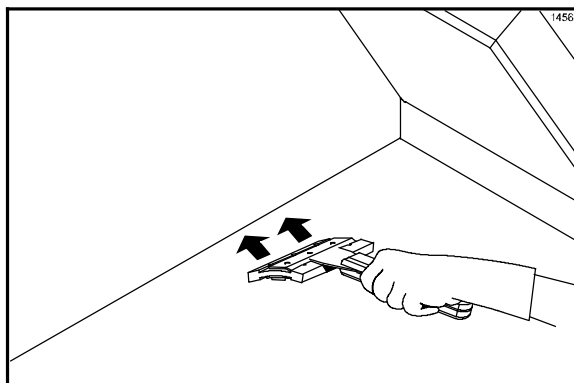

Figure 19
10. Use the grill squeegee to push residual grease into the grease pans. (See Figure 19.)